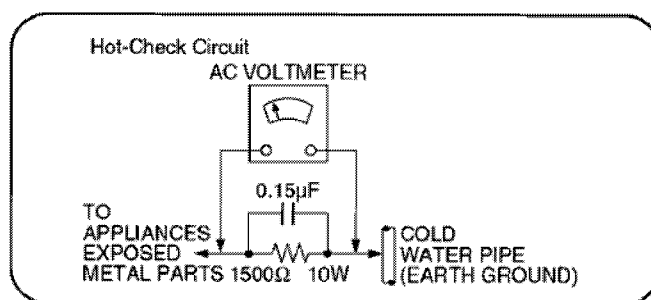

Figure 1
2.1.2. Leakage Current Hot Check (See Figure 1)
2. Connect a 1.5k Ω , 10 watts resistor, in parallel with a 0.15 μ F capacitor, between each exposed metallic part on the set and a good earth ground such as a water pipe, as shown in Figure 1.